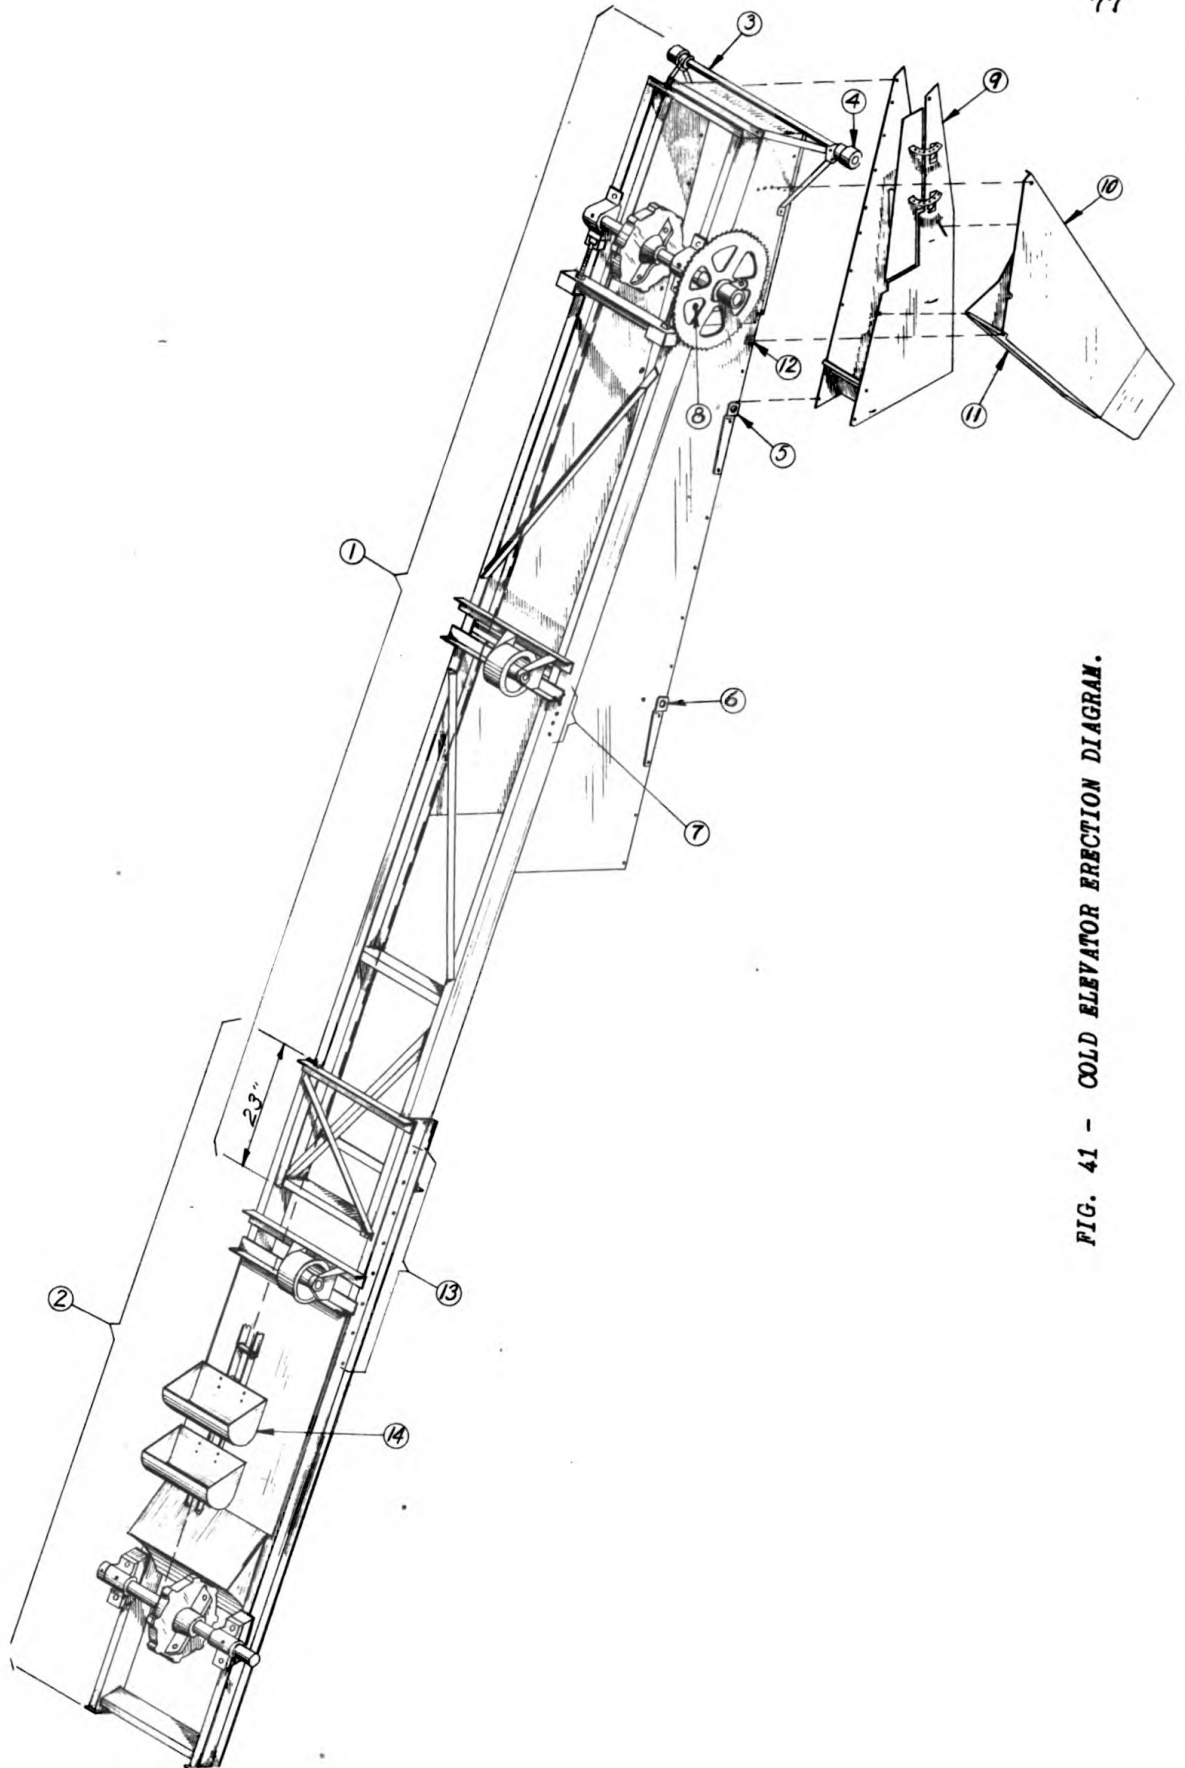

FIG. 41 - COLD ELEVATOR ERECTION DIAGRAM.
Lay two or three pieces of planking lengthwise over the pit. Place the head end section (1), Fig. 41 on the ground at right angles to the dryer and in line with the elevator erection guides so that the guide rollers (4), are directly beneath the lower ends of the erection guide channels. Bring the foot end section (2), into position in line with the head end section and telescope the ends of the conveyor frame for a distance of 23". Insert four 5/8" bolts through each side of the frame at the joint, making sure that there is at least 12" between the upper two bolts and the lower two bolts. This distance between bolts must be maintained to insure rigidity of the frame at the joint.
Attach all three sections of the bucket line (14) Fig. 41, together into a single strand, making sure that all buckets face the same way. Loosen the take-up bolts at the headshaft and move the headshaft down the frame toward the foot end as far as it will go. Thread the bucket line around the head and footshafts with the open end of the buckets, on the upward run of the chain, facing toward the headshaft. Connect the two ends and take up on the headshaft until the sag in the return run of the bucket line is approximately 1'. Make sure the headshaft is square with the elevator frame before locking the jam nuts on the take-up bolts. This is necessary to insure proper alignment of the headshaft.
Hook a chain hoist into each of the hoist hook brackets (2) Fig. 42, at the lower end of the erection guide channels (10). Fasten the hoist chains to either side of the erection roller shaft (3) Fig. 41, and hoist the head end of the elevator until the limit of the hoists is reached. Block up under the head end to support the elevator while another hitch is made. Hook the chain hoists into the second pair of hoisthook brackets (3) Fig. 42, and fasten the hoist chains to the guide trunnion shaft as before and continue the hoisting process. Guide the erection trunnions (4) Fig. 41, into the erection guide channels (10) Fig. 42, when the elevator has been raised sufficiently to permit. When the limit of the hoist has again been reached, insert a bolt through each guide channel immediately below the trunnion roller. This will hold the elevator in position while changing the hoists for another hitch.
| 3rd lift | (4) - Fig. 42 | (3) - Fig. 41 |
| 4th lift | (4) - Fig. 42 | (5) - Fig. 41 |
| 5th lift | (4) - Fig. 42 | (6) - Fig. 41 |
With the elevator hoisted to position, remove the hook brackets (2), from the guide channels. Attach the lower push arm assembly (5), to the guide channels using the holes in the guide channels where the lower set of hoist hook brackets were originally located. Secure the lower push arms to the elevator frame by attaching the angle brackets (6), to the elevator channel frame, using any of the series of holes (13) Fig. 41, (at the joint of the two frame sections) that match. At this point the foot end of the elevator should be shifted sideways, if necessary, to make it plumb. Remove the hook brackets (3) Fig. 42, and attach the middle push arm assembly in the same manner as the lower push arm assembly was installed. When raising the push arms into place, it may be necessary to move each push arm to one side or the other to permit the push arms to straddle the elevator frame equally. A series of holes in the push ar
support angle are provided for this purpose. With the arms properly aligned, bolt the ends of the arms to any one of the series of holes, (7) Fig. 41, that match. Before installing the upper push arm assembly, the hoist extension frame (1) Fig. 42, must be removed. The extension is used only for erection purposes and must be removed before the upper push arms and discharge spout can be installed. Proceed in the same manner for installing the upper push arm (8). The upper push arms bolt to a hole (8), Fig. 41, in the elevator frame, a few inches below the headshaft.
The discharge spout consists of two sections, one section (9) Fig. 41, comprising the spout that directs the aggregate into the drum nearest the cold elevator, and the other section (10), comprising the section that directs the aggregate into the drum furthest from the cold elevator. Bolt the first section (9) in place as shown. Attach the section (10), in place by inserting hinge rod through points (11) and (12). Raise or lower the spout as necessary to obtain proper position in relation to the dryer charging hopper, then insert bolt through matching holes in elevator return housing and upper end of chute section, as shown.